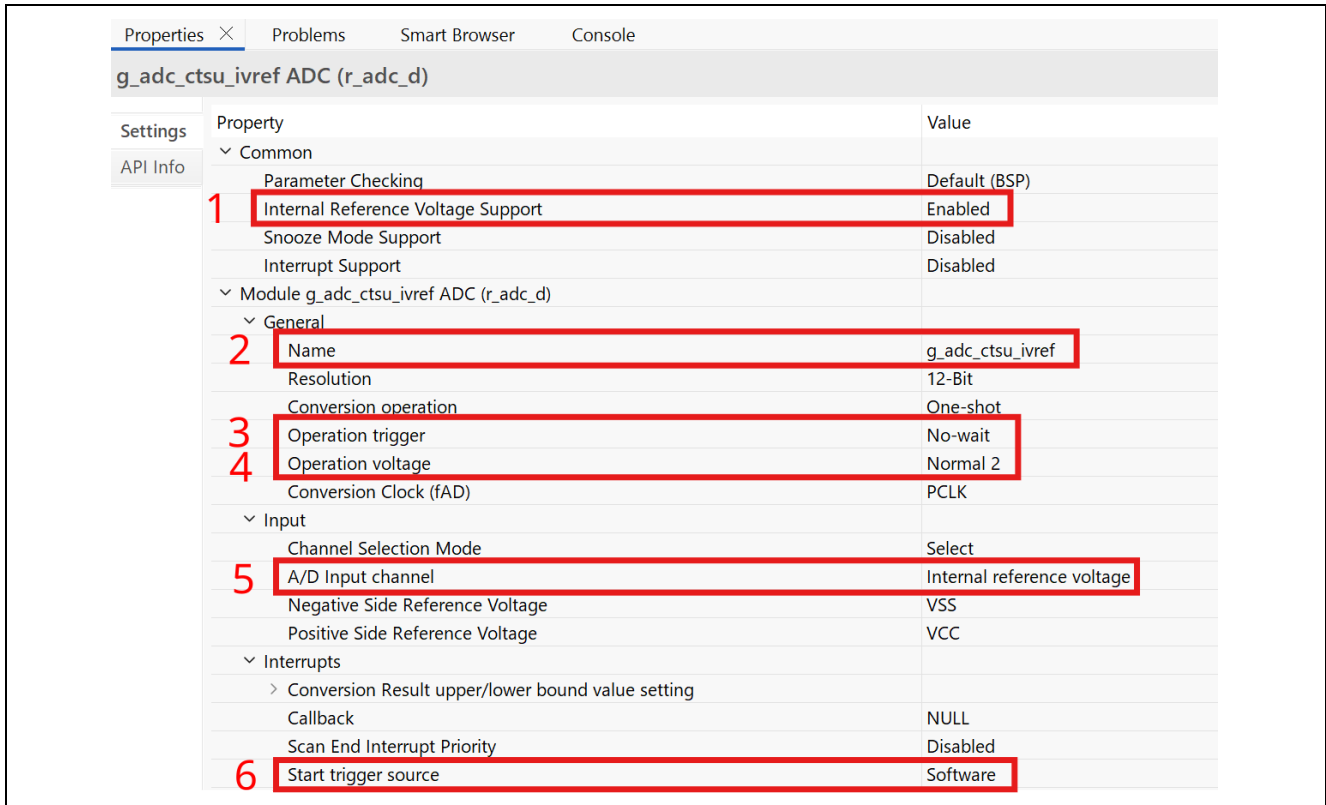

Figure 6-4 Configure “g_adc_ctsu_ivref” (RA0L1/NM mode)
7. Select “g_adc1 ADC” and click [Properties] and change the following settings as shown in Figure 6-4.